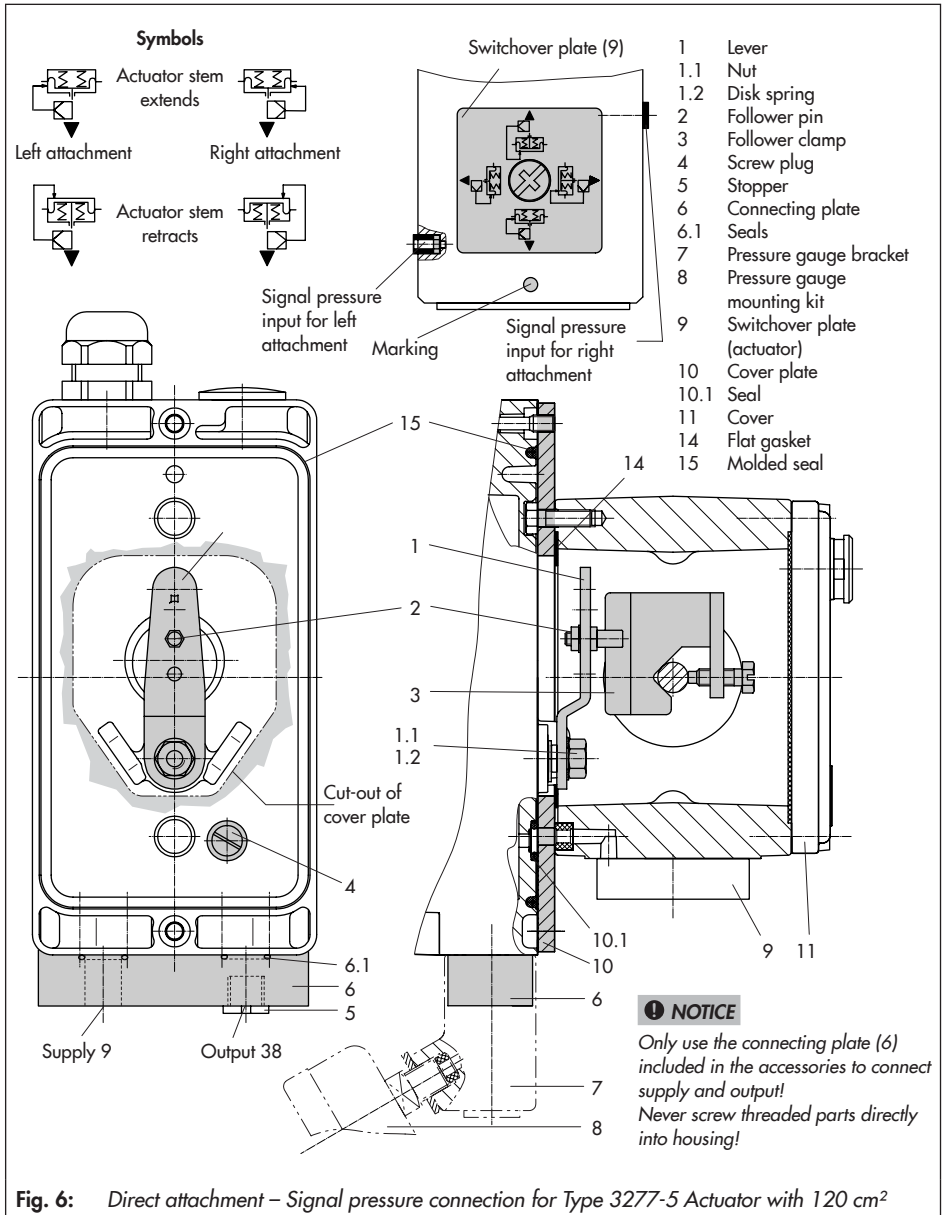

Fig. 6: Direct attachment – Signal pressure connection for Type 3277-5 Actuator with 120 cm²
Actuator with 120 cm² (see Fig. 6)
1. Mount connecting plate (6) or pressure gauge bracket (7) with pressure gauges on the positioner. Make sure that the two seals (6.1) are seated properly.
2. Remove screw plug (4) on the back of the positioner and seal the signal pressure output (38) on the connecting plate (6) or on the pressure gauge bracket (7) with the stopper (5) included in the accessories.
3. Place follower clamp (3) on the actuator stem, align it and screw tight so that the mounting screw is located in the groove of the actuator stem.
4. Mount cover plate (10) with narrow side of the cut-out (Fig. 6, on the left) pointing